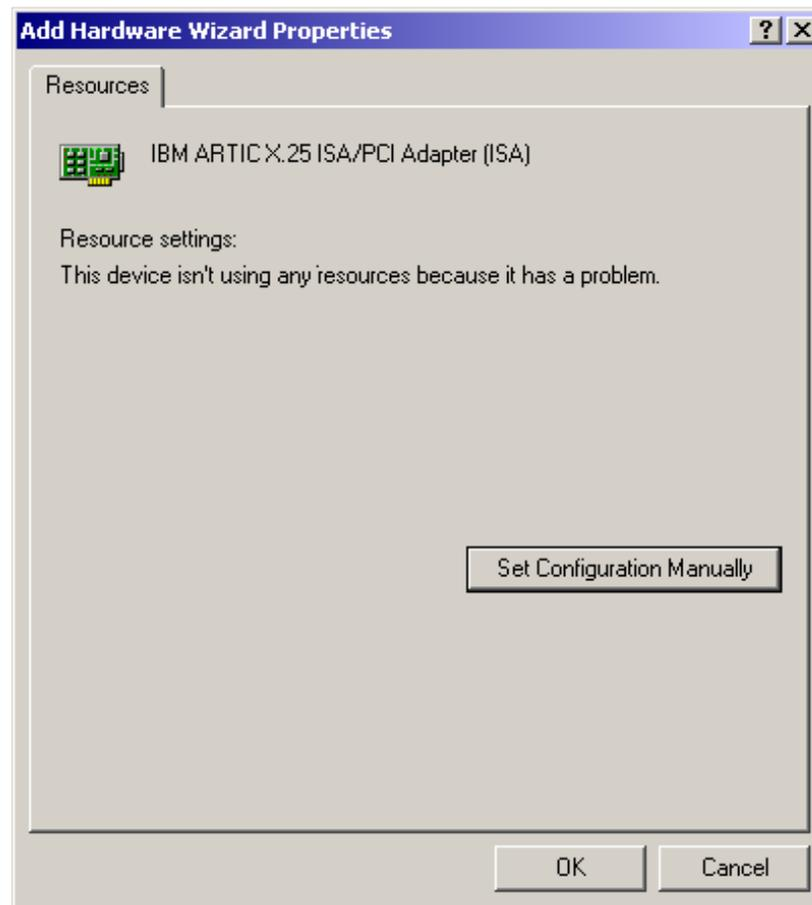

FIGURE 202. Add Hardware Wizard Properties - Resources window
32. This will open the Resources window as seen in Figure 202.